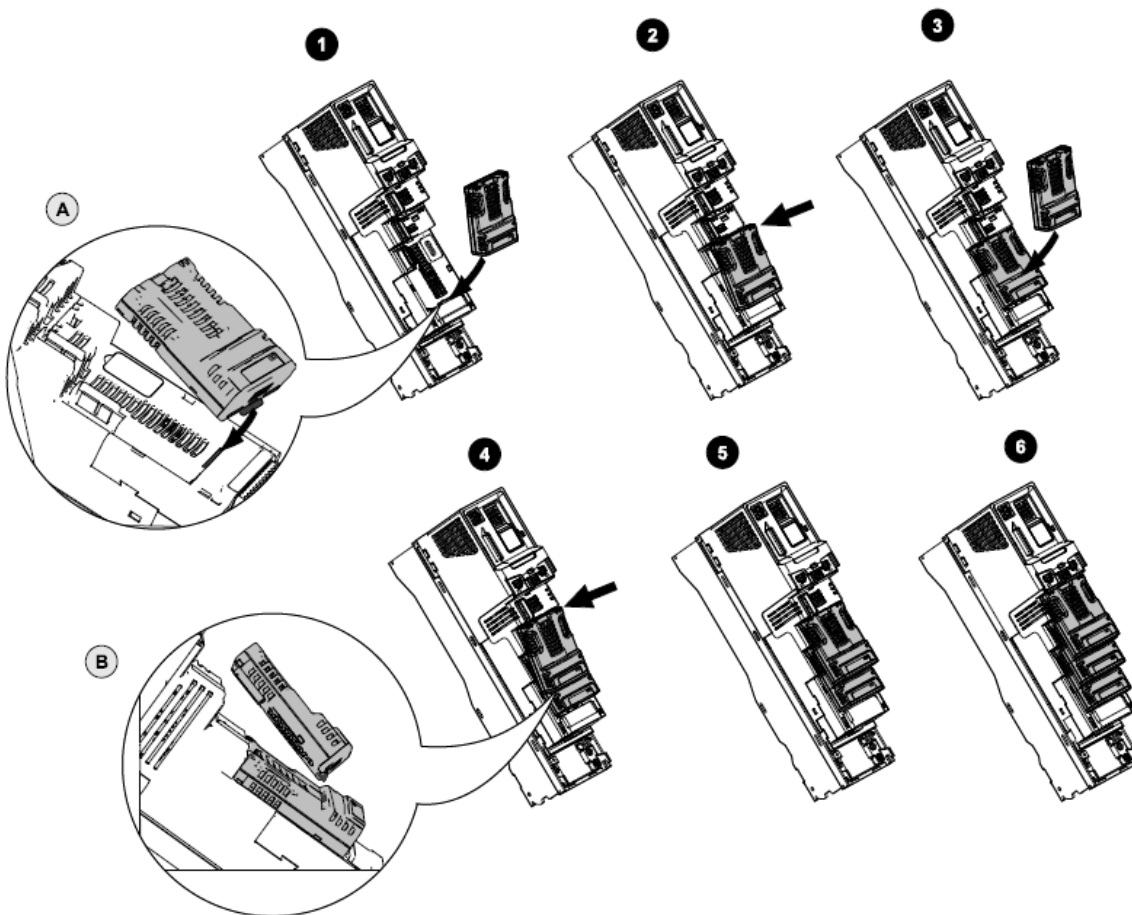

Figure 4
Move the option module in direction shown Figure 4 (1).
- Align and insert the option module tab in to the slot provided Figure 4 (2), this is highlighted in the detailed view Figure 4 (A).